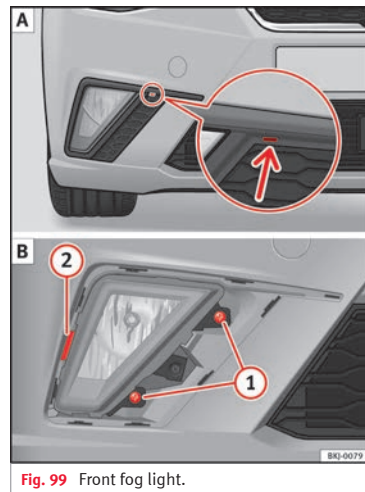

Fig. 99 Front fog light.
- Lever with a screwdriver in the notch » Fig. 99 A (arrow). Subsequently, remove the clips located on the edge of the grill with gentle leverage.